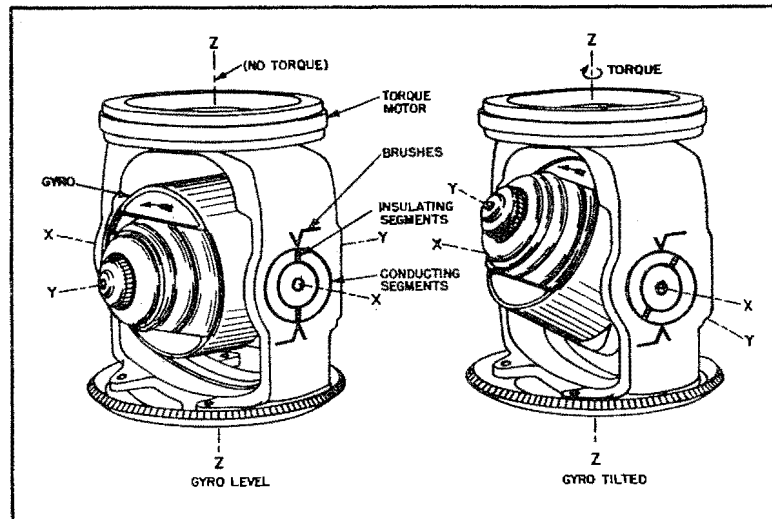

Figure 5 - Leveling System Schematic
(5) The magnetic field, created by the constantly energized fixed field winding of the torque motor coil, is not a rotating field and therefore no torque (turning force) is applied to the vertical gimbal ring. However, if power from the transformer is applied to the control field winding, the combined magnetic fields create a rotating field applying a torque in one direction to the vertical gimbal ring. If the polarity of the power applied to the control field winding is reversed, the magnetic field rotates in the opposite direction, reversing the torque applied to the vertical gimbal ring.
(6) The purpose of the leveling switch, of which one conducting segment is shown as 33, figure 3, is to reverse the polarity of the power applied to the control field winding of the torque motor coil. The leveling switch functions as a double-pole, double-throw reversing switch. The circular conducting segments of the leveling switch (figure 5) are attached to the gyro housing and are rotated as the housing tilts from the level position. Therefore, the polarity of the power applied to the control field winding is dependent on the direction of tilt of the gyro housing. The brushes of the leveling switch are attached to the vertical gimbal ring and remain stationary.
For the sake of simplicity in explanation, the leveling switch is shown schematically in figure 5 on the outside of the vertical gimbal ring. However, the leveling switch is actually located on the inside of the vertical gimbal ring. (See figure 5).
(7) When the gyro housing is in the level position (figure 5), the brushes rest on the insulating segments that separate the conducting segments. In this position, no power is supplied to the control field winding of the torque motor stator coil and no torque is applied to the vertical gimbal ring.
(8) If the gyro housing tilts (figure 5), the conducting segments are rotated, establishing contact between one lead of the transformer and a lead of the control field winding, as well as between the second lead